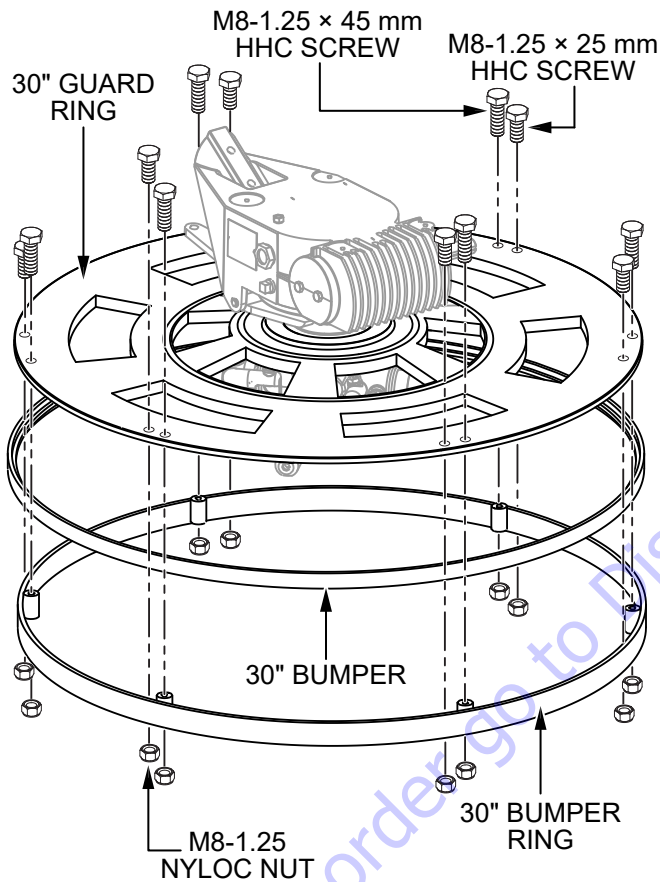

Figure 19. 30-Inch Bumper Ring Installation
- Place the 30" bumper in between the 30" guard ring and the 30" bumper ring as shown in Figure 19. Secure the 30" bumper ring to the 30" guard ring with the six provided M8-1.25 x 45 mm HHC screws and six retained M8-1.25 nyloc nuts.
- Install the six retained M8-1.25 x 25 mm HHC screws and six remaining M8-1.25 nyloc nuts into the available 30" guard ring holes (Figure 19) and tighten securely.